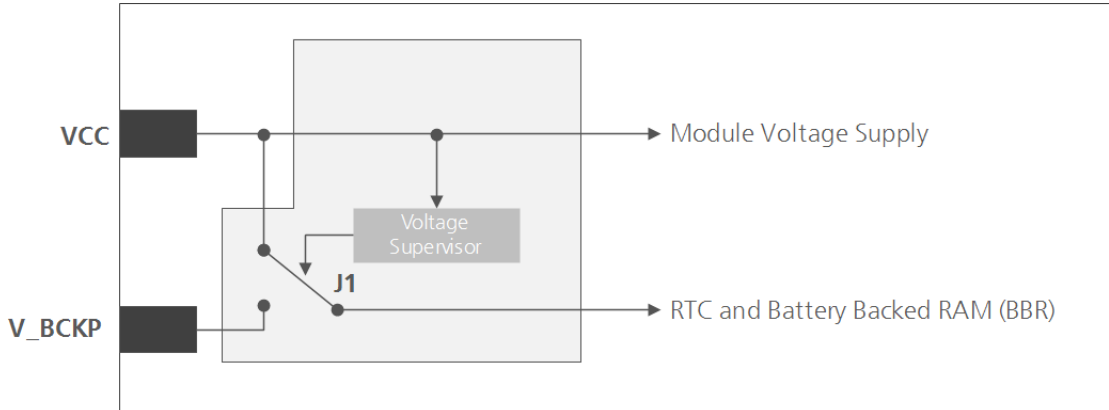

Figure 1: Backup battery and voltage (for exact pin orientation, see NEO-M8P Data sheet [1])
-  While power is supplied to the NEO-M8P module through the **VCC** pin, the backup battery is disconnected from the RTC and the BBR to avoid unnecessary battery drain (see Figure 1). In this case, **VCC** supplies power to the RTC and BBR.